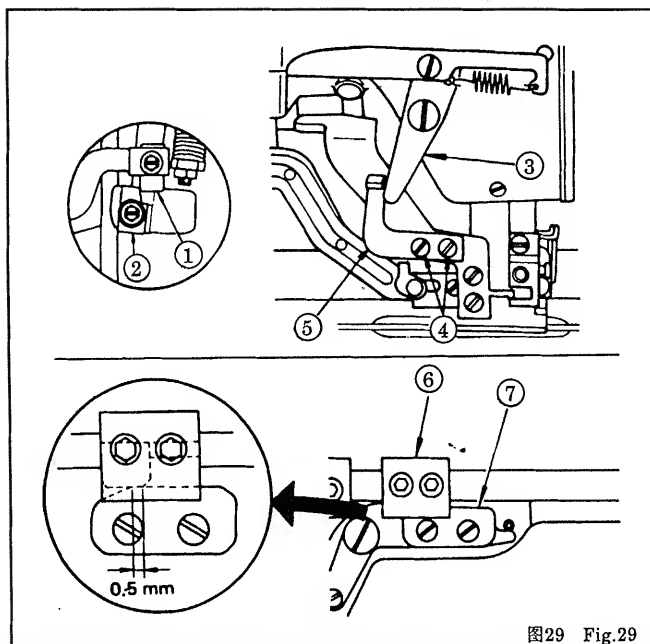

图29 Fig.29
26. 面线剪刀托架和面线剪刀限位板的调节 图29
26. ADJUSTMENT OF NEEDLE THREAD TRIMMER HOLDER AND LIMITING PLATE Fig. 29